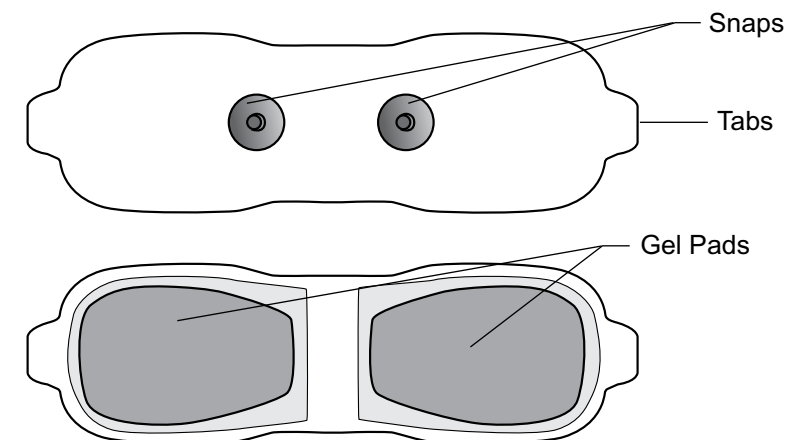

Figure 5-4: Gel Electrode (top and bottom views).
**Gel Electrode features: (See Figure 5-4)**